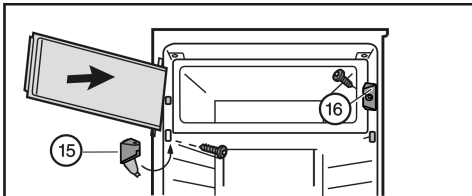

Fig. 8
- ▶ Fit closing element *Fig. 8 (16)*.
- ▶ Fit turn hinge *Fig. 8 (15)* and fold the cover.